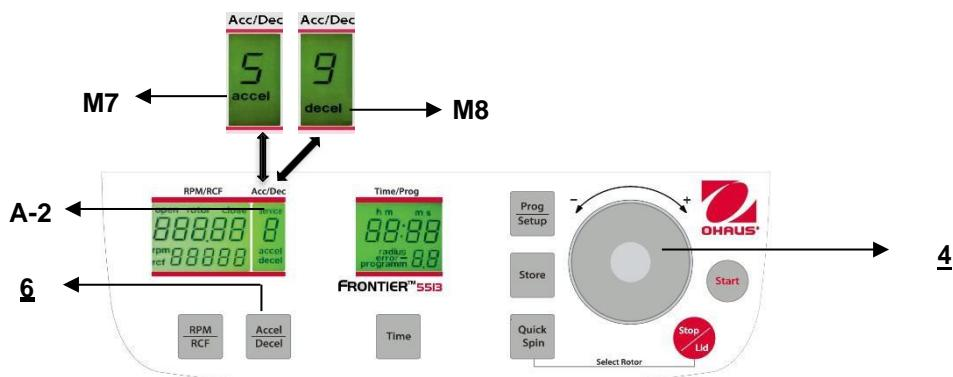

Figure. 15
The lid should only be put down slightly. A lid lock closes the lid, at the same time the word "open" (M2) disappears (refer to figure 15).
This function is activated through the key "Accel/Decel" (6) (refer to figure 15).